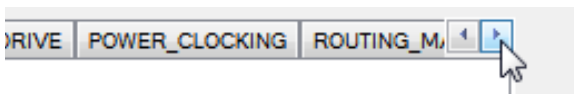
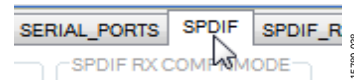

Figure 37. Using the Register Tab Scroll Button
Figure 38. Selecting the **SPDIF** Tab
- b. To access the **SPDIF** tab, click the right arrow to scroll (see Figure 37). Then, click the **SPDIF** tab (see Figure 38). There are several register control tabs listed across the top of the window.